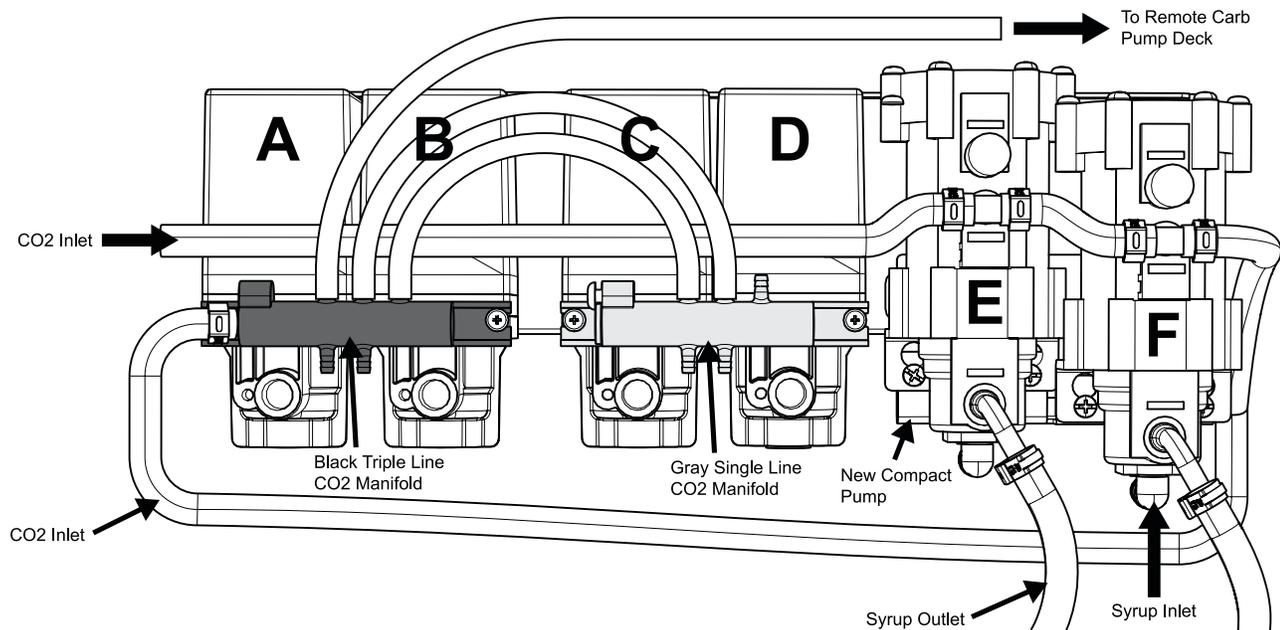

Figure 4
7. Route the appropriate tubing from the open inlet on the black CO₂ manifold on pumps A and B to one of the closed inlets on the gray CO₂ manifold on pumps C and D. (See Figure 4)
12. Connect CO₂ line routed from the CO₂ source to the new pump (C) CO₂ inlet.
14. Route CO₂ line from the CO₂ quick connect inlet on the second pump (F) to the elbow inlet connection on the black CO₂ manifold on pumps A and B.